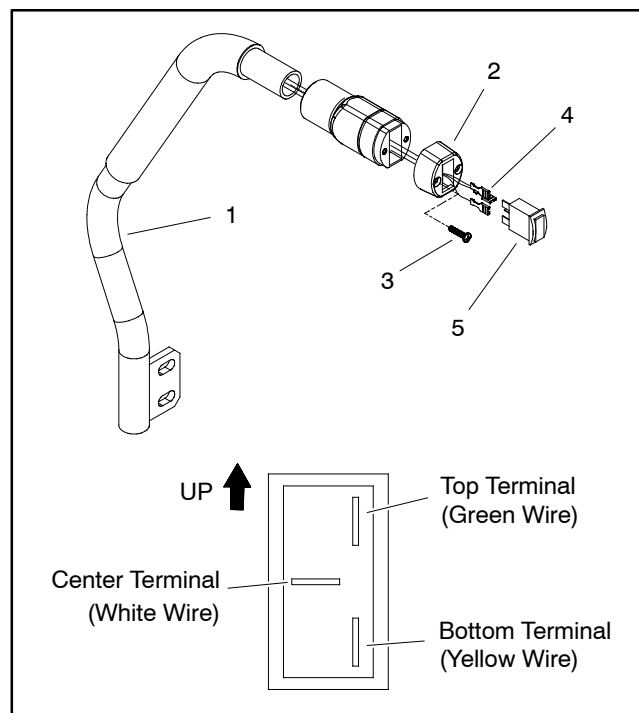

Figure 37
2. Move RH traction lever out of the neutral position and remove two (2) screws that secure switch cap to right side motion control handle (Fig. 37). Carefully slide switch cap with deck lift/lower switch and attached wire harness from control handle.
9. After testing is complete, secure wire harness connectors to deck lift/lower switch. Make sure that connectors are attached to the switch terminals as shown in Figure 37. The top switch terminal should have the green wire connected to it for proper lift operation.
10. Carefully slide switch cap with lift/lower switch and attached wire harness into right side control handle and secure with two (2) screws.